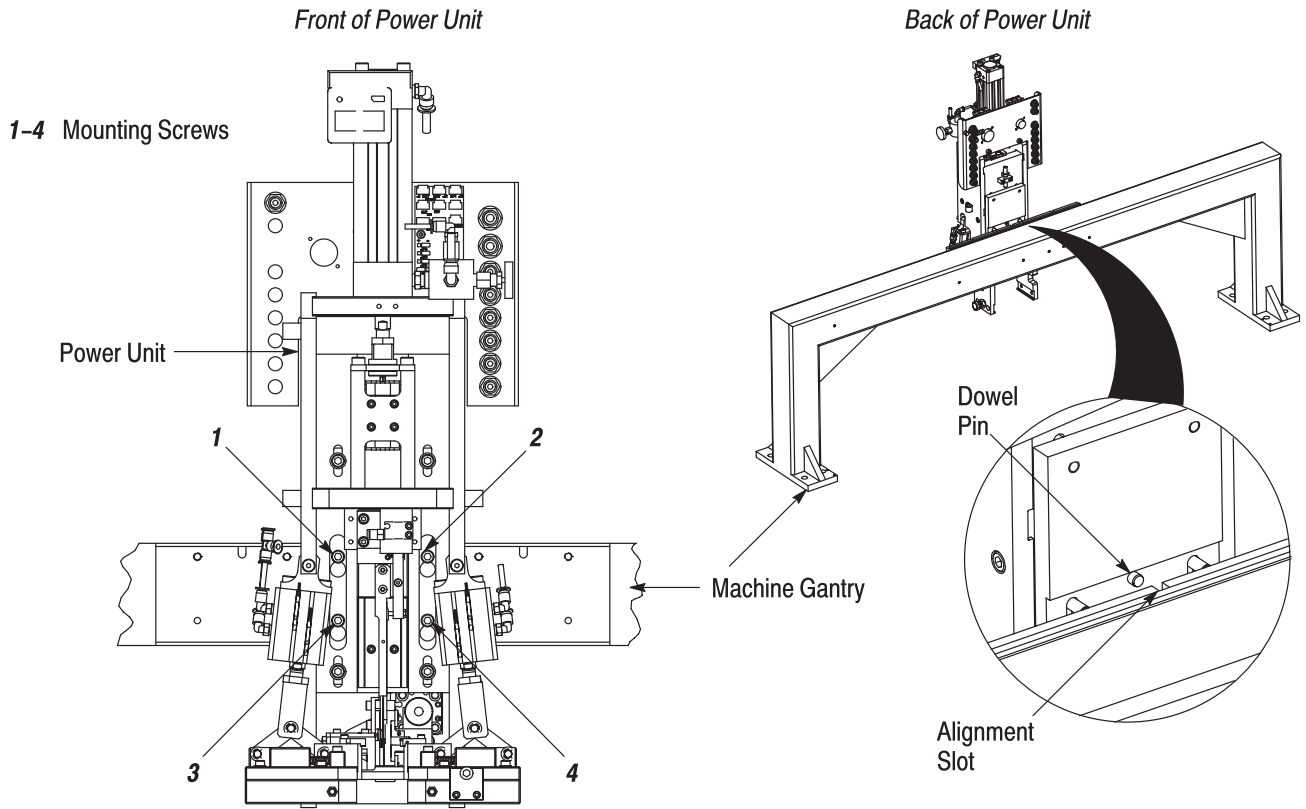

Figure 4
2. Position the mounting holes of the power unit over the four mounting screws of the machine gantry. Refer to Figure 4.
4. Loosen, but do not remove, the four mounting screws that attach the power unit to the machine gantry (refer to Figure 4).